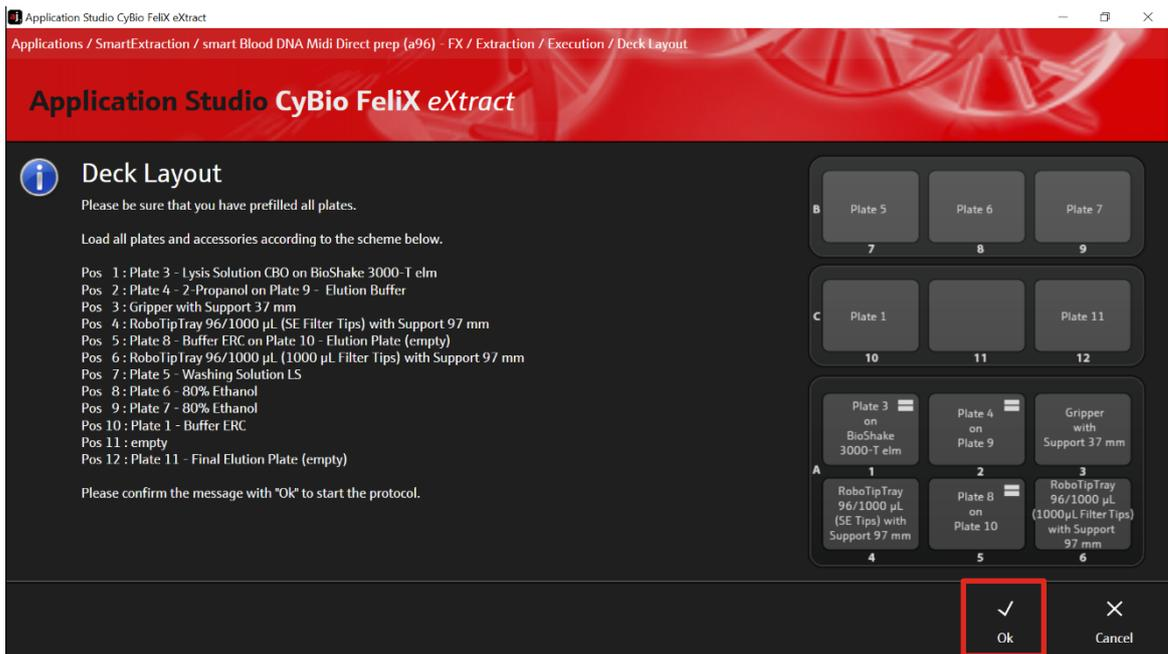

Figure 18: List of deck positions and corresponding plates.
9. Check the correct positioning of plates and accessories on the corresponding deck positions and confirm with "Ok" (\rightarrow see Figure 18).